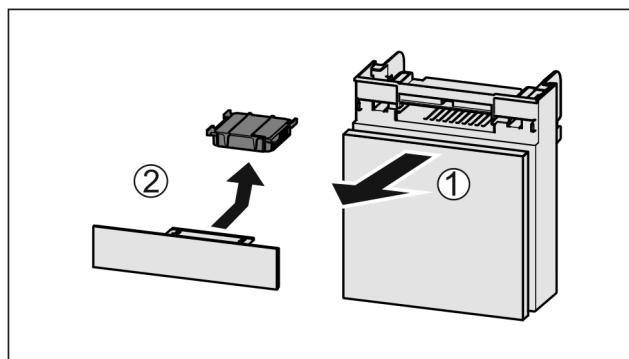

Fig. 226
- Pull out the compartment Fig. 226 (1).
- Remove the carbon filter Fig. 226 (2).